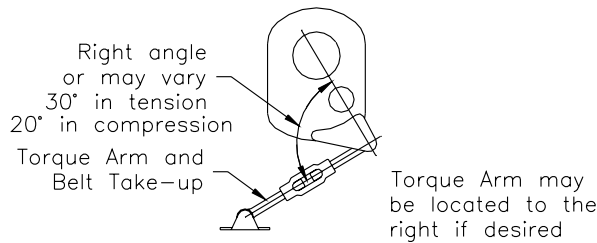

Figure 4 - Angle of Torque Arm
7. Install torque arm fulcrum on a flat and rigid support so that the torque arm will be approximately at right angles to the centerline through the driven shaft and the torque arm anchor screw. (See Fig. 4) Make sure that there is sufficient take-up in the turnbuckle for belt tension adjustment when using V-belt drive.